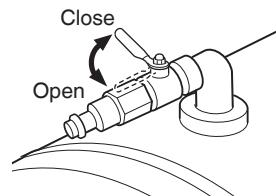

Fig. 6
- (1) Close the air valve. (Fig. 6)
- (2) Connect the compressor by connecting the air hose to the air filling male coupler of the tank.
- (3) Connect to the application by connecting the air hose to the tank's quick couplers.
- (4) Slowly open the air valve.